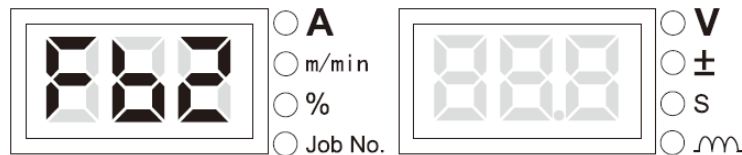

Figure 3-43 Model query screen
1. Access the internal menu, switch the knob on the control panel of the welder to **FB2**. The LED screens display the message shown in Figure 3-43.